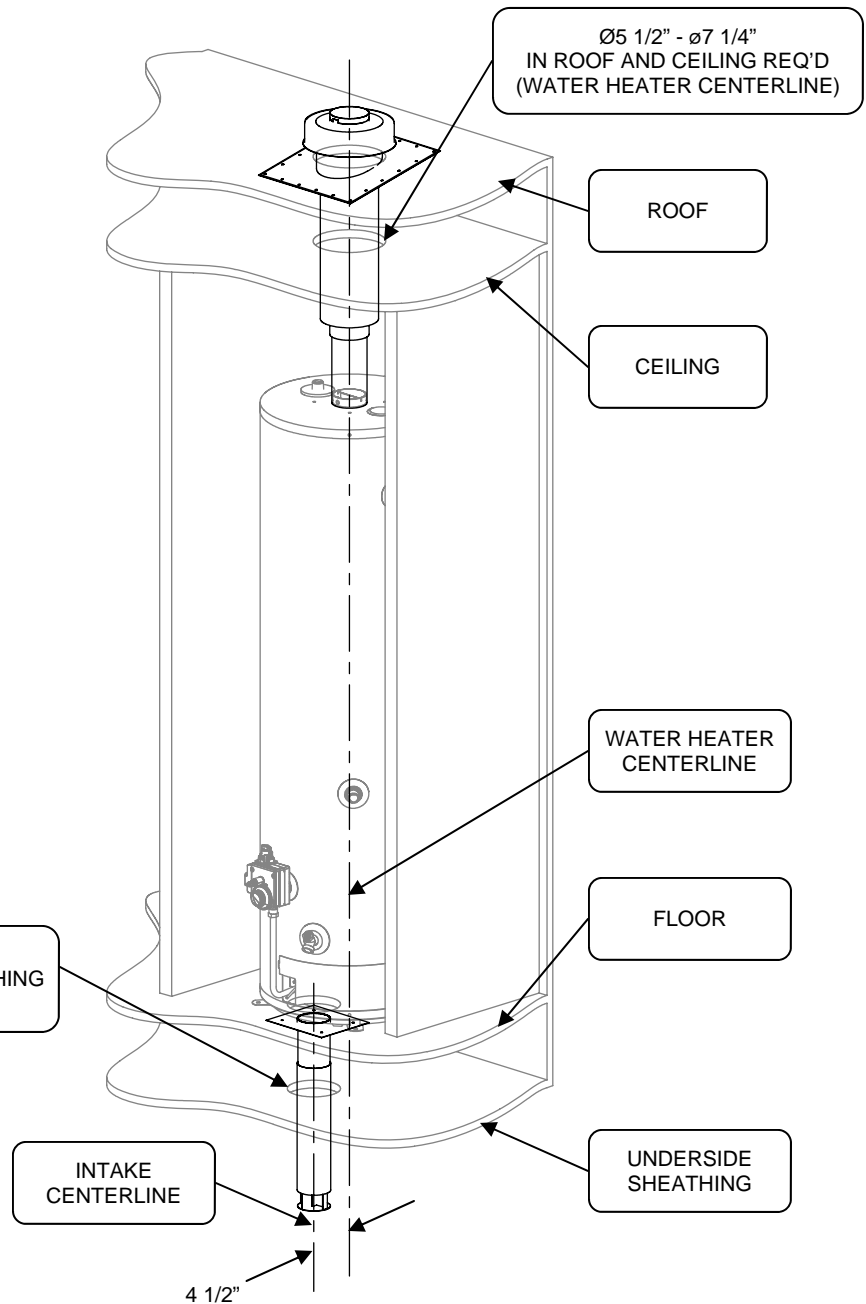

Figure 1
- Step 4. Mark the intake centerline (4 1/2" toward the front of the water heater centerline) on the floor and cut a 4 3/4" diameter hole in the floor and the underside sheathing (see Figure 1).